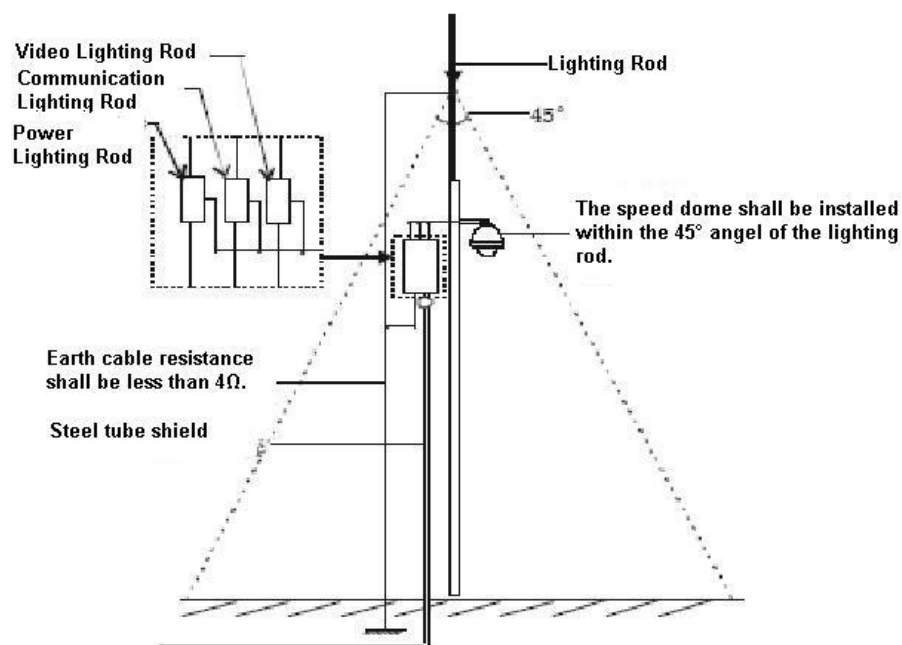

Figure 4-1
- System shall adopt equal-potential wiring. The earth device shall meet anti-jamming and at the same time conforms to your local electrical safety code. The earth device shall not short circuit to N (neutral) line of high voltage power grid or mixed with other wires. When connect the system to the earth alone, the earth resistance shall not be more than 4Ω and earth cable cross-sectional area shall below 25 mm^2 . See Figure 4-1.